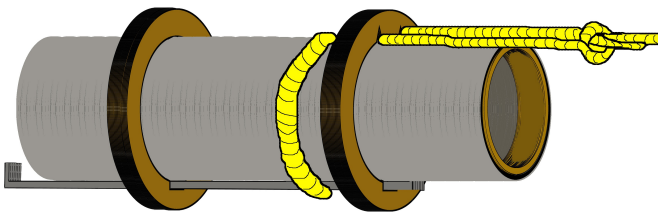

Figure 4
- Step 6** Tie a knot about 5" from one end of the Kevlar thread. As shown in Fig. 4, push the short end of the line through one of the "V" notches from the front, wrap the line around the middle of the mount, and push it through the other "V" notch from the back. Tie the short end of the thread around itself on the long side of the knot. Pull the slack out of the loop, pushing the loop against the back of the forward ring, and even out the two lengths of line on the short side of the knot, so that there is even tension when the parachute is deployed. Finish the assembly of both mounts with glue at this time and set aside to dry.